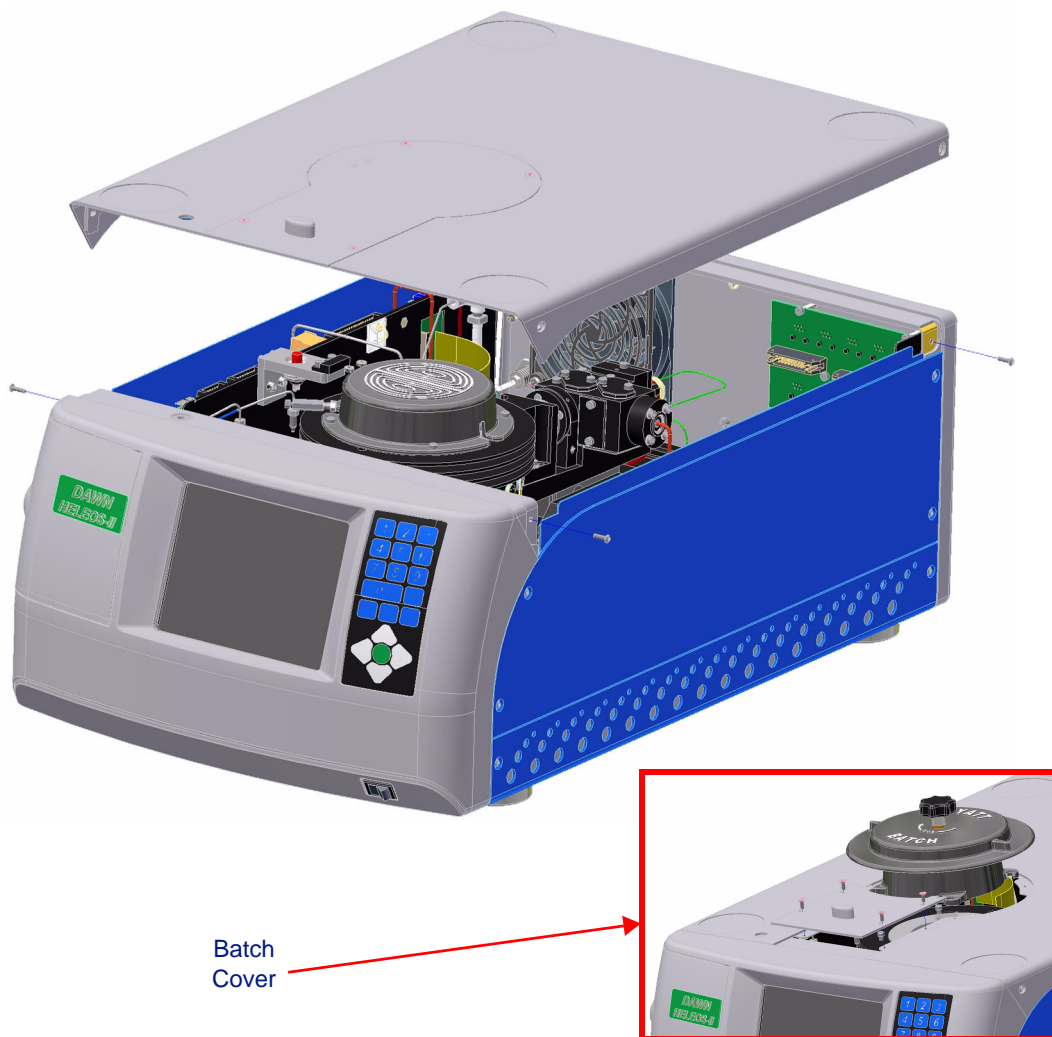

Figure 3-4: DAWN HELEOS II Top Cover
3. Remove the four screws that fasten the top cover to the instrument using the 2.0 mm Ball driver. The screws are shown in Figure 3-4.